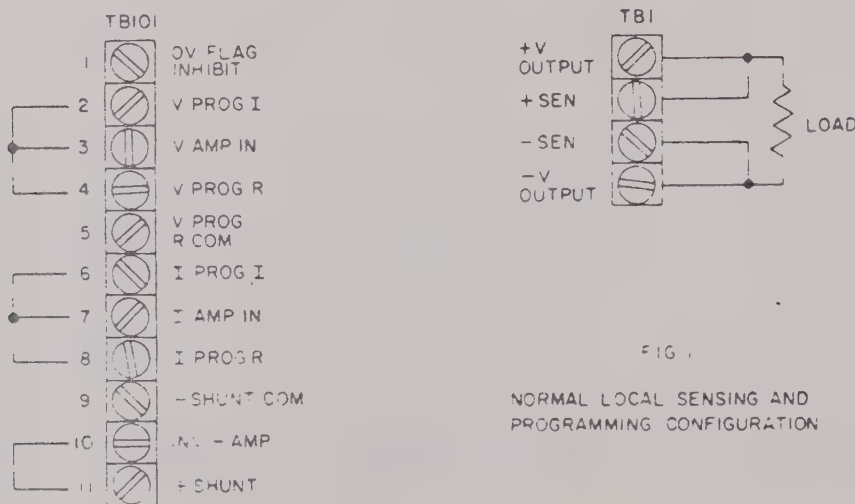

FIG. 1
1. Check that the barrier jumper straps are as shown in Figure 1, for normal mode.
5. Turn the CIRCUIT BREAKER (1) on/off switch to "on". The fans should start immediately. There should be no output voltage or current.
6. Advance the CURRENT CONTROL (2) one turn clockwise and slowly advance the VOLTAGE CONTROL (3). The DC VOLTAGE METER (4) should deflect smoothly from zero to the rated current of the supply as this control is advanced to full clockwise.
8. Connect a short circuit to the power output terminal block (TB1-2 & 4) on the rear panel or the front terminals (6).
10. Advance VOLTAGE CONTROL one-half turn and slowly advance CURRENT CONTROL. The DC CURRENT METER (5) should deflect smoothly from zero to the rated current of the supply as this control is advanced completely clockwise. The LED indicators should flip from maximum voltage level (Yellow LED) to the minimum level (Red LED). The middle range should be skipped (Green LED).
2.4.1 NORMAL MODE (Fig. 1)